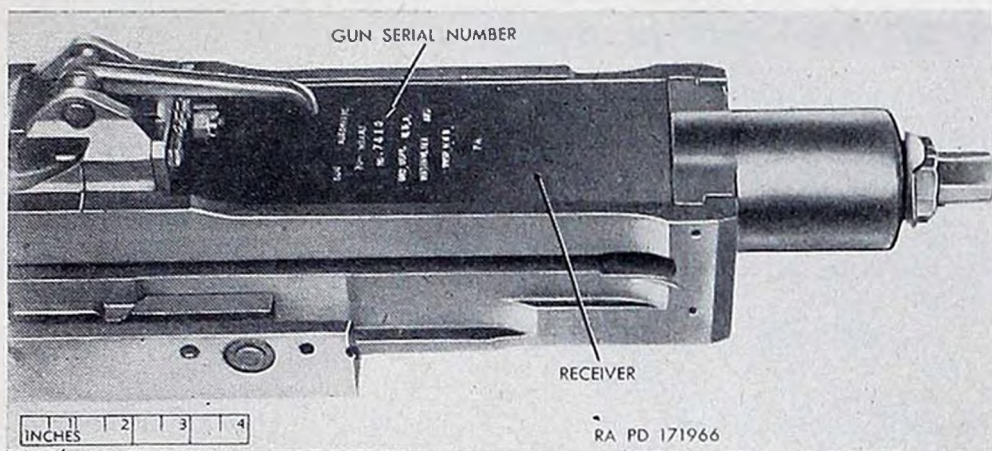

Figure 16. Location of serial number of gun.
b. The serial number of the gun is stamped on the rear of the receiver (fig. 16).